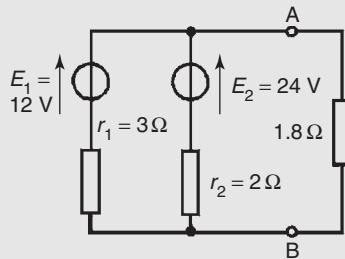

Figure 13.72
Problem 20. (a) Convert the circuit to the left of terminals AB in Fig. 13.72 to an equivalent Thévenin circuit by initially converting to a Norton equivalent circuit. (b) Determine the current flowing in the 1.8Ω resistor.
- (a) For the branch containing the 12 V source, converting to a Norton equivalent circuit gives $I_{SC} = 12/3 = 4\text{ A}$ and $r_1 = 3\Omega$. For the branch containing the 24 V source, converting to a Norton equivalent circuit gives $I_{SC2} = 24/2 = 12\text{ A}$ and $r_2 = 2\Omega$. Thus Fig. 13.73(a) shows a network equivalent to Fig. 13.72